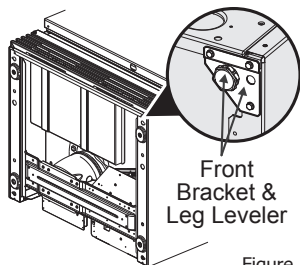
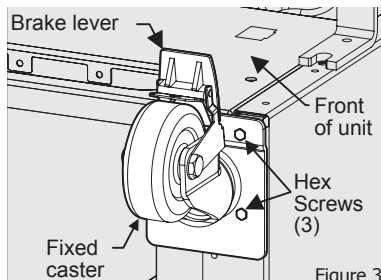

Figure 1
Figure 3
4. Remove and discard the two front brackets with leg leveler using a 5/16" socket wrench. See Figure 1.
Locate and align fixed caster (with brake lever facing front of unit - see Figure 3) over the same mounting holes from bracket in Figure 1 using 6 hex screws (3 for each caster). Secure the screws snug using a $\frac{3}{8}$ " open end wrench. Repeat this procedure for opposite corner. DO NOT OVERTIGHTEN.